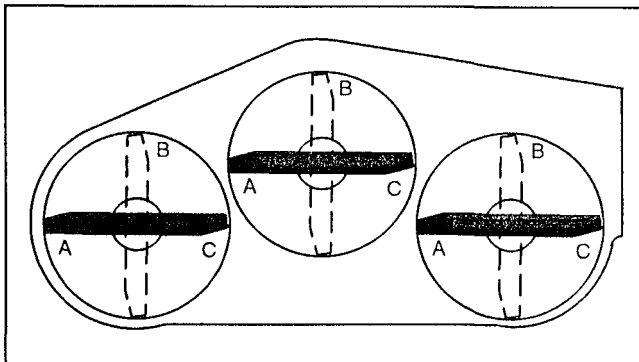
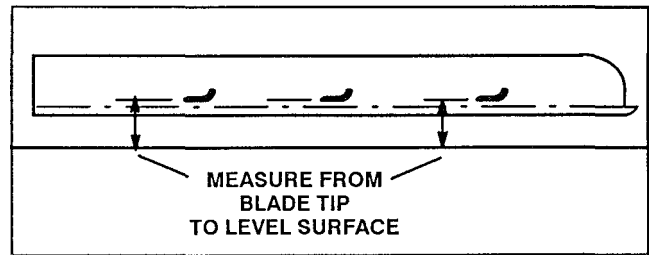

Figure 32
Figure 33
5. Position all three blades in the "A" position (Fig. 32) and measure from level surface to the bottom of the tip end of each blade (Fig. 33).
6. Note measurement attained at "A", rotate blades to "B" position (Fig. 32), measure distance of all blades to level surface and note dimensions (Fig. 33).
7. Rotate blades to "C" position, measure and note distance measured (Fig. 32, 33).